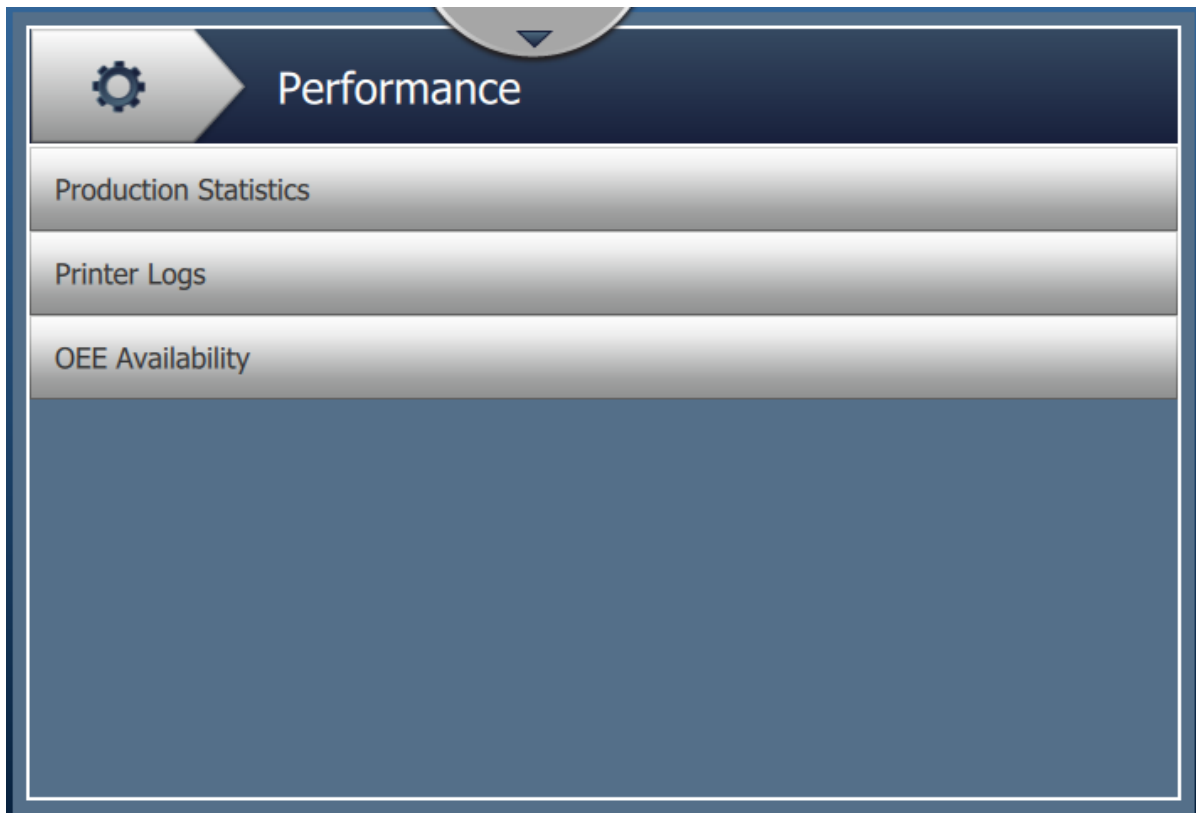

Figure 6-3: Performance Screen
1. Touch the  button from the Tools screen. The Performance screen opens as shown in the Figure 6-3.